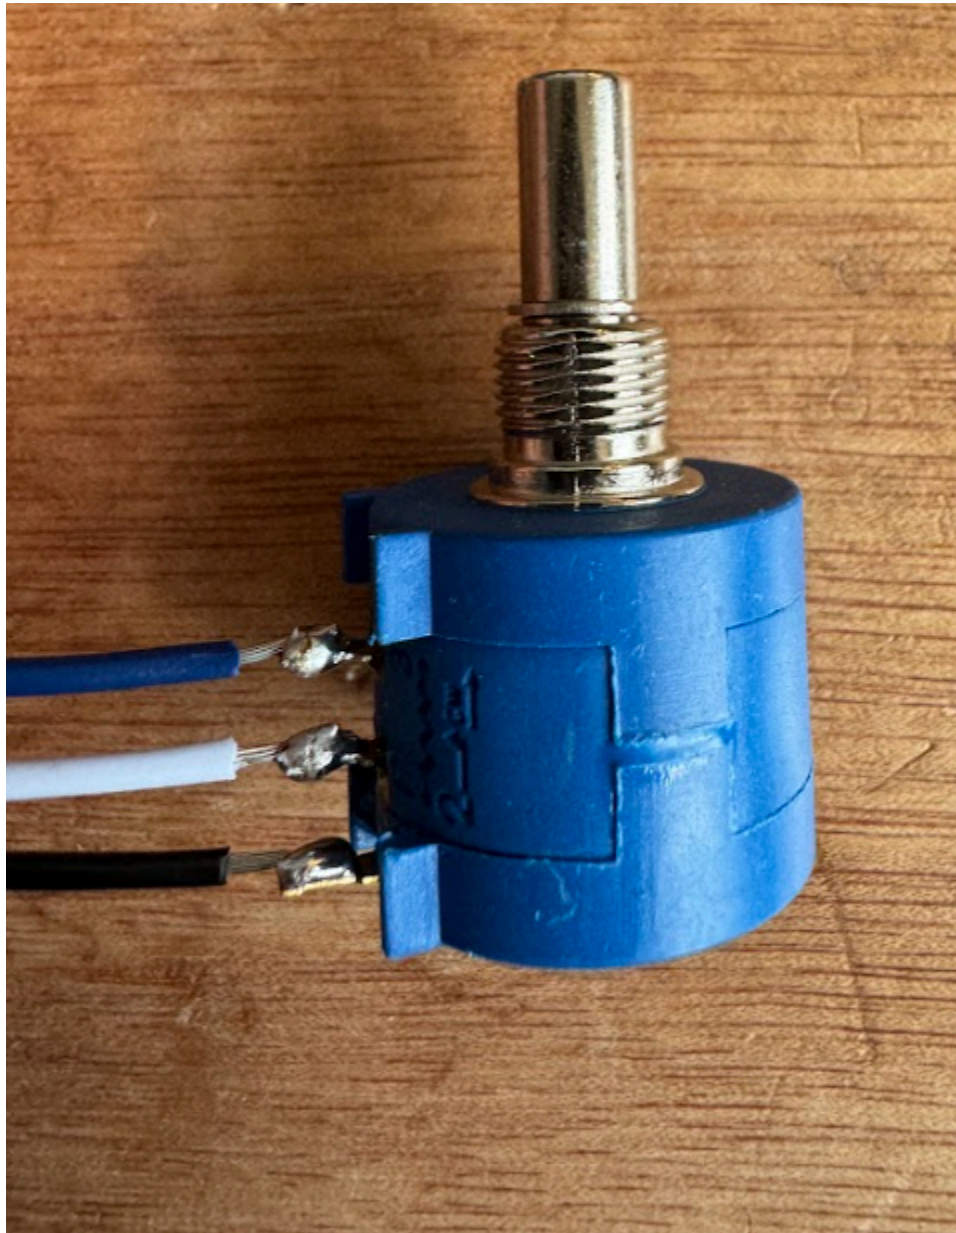

Figure 0.3 - Potentiometer Wire Soldering
- b. Soldier SVG Wire ends to Potentiometer terminals as shown in Figure 0.3